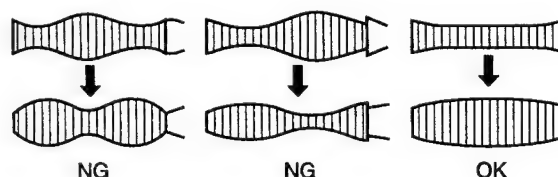

Fig. 1-7-8 Abnormal waveform variation
7. If the envelope varies like NG figures as shown in Fig. 1-7-8, perform the adjustment again since it is abnormal.